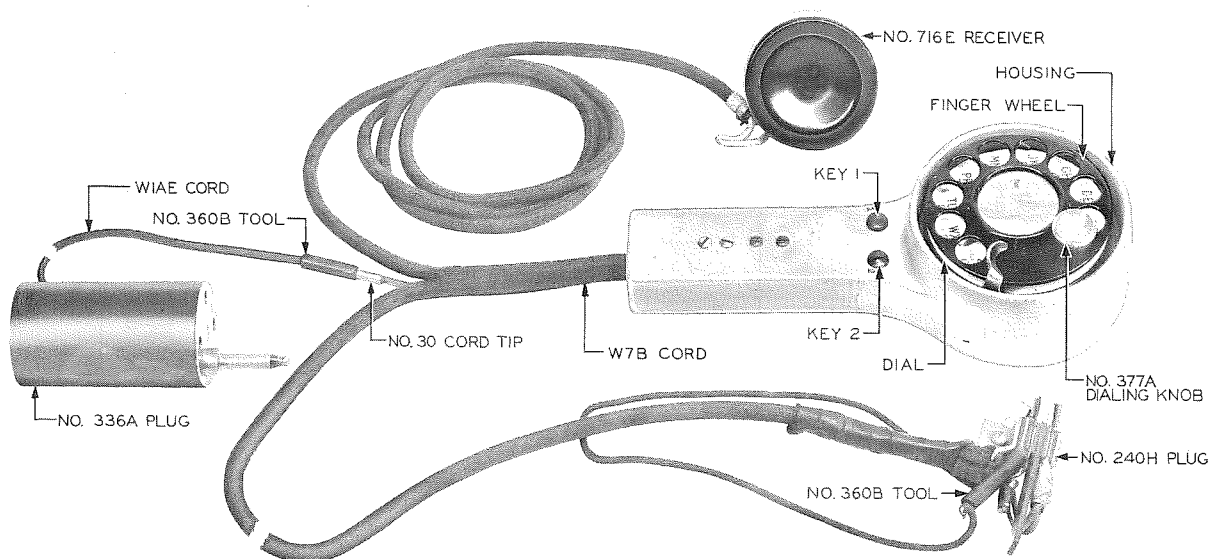

Fig. 1 - No. 40C Test Set Equipped With a
- 2.01 The No. 40C test set consists of a housing in a handset form which contains a No. 6E dial, a 248-ohm resistor, a 0.05-mf capacitor, and two nonlocking keys numbered 1 and 2. A No. 716E receiver, which has an HA2 receiver unit, and two plugs, Nos. 240H and 336A, are connected to the test set by means of cords. Fig. 1 shows a view of the No. 40C test set equipped with a No. 377A dialing knob which is used as a stop on dials for repeat dialing of the same digit during testing operations. Earlier type test sets are equipped with a W8A cord and a No. 509 receiver. Mounted on the receiver is a No. 106A adapter containing a resistance of 50,000 ohms.